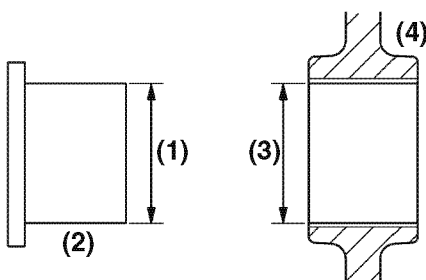

Figure 6-79
1. Measure the outside diameter (**Figure 6-79, (1)**) of the idler gear shaft (**Figure 6-79, (2)**). Record the measurements. See *Idler Gear Shaft and Bushing on page 6-8 for specifications*.
2. Measure the inside diameter (**Figure 6-79, (3)**) of the idler gear bushing (**Figure 6-79, (4)**). Record the measurements. See *Idler Gear Shaft and Bushing on page 6-8 for specifications*.